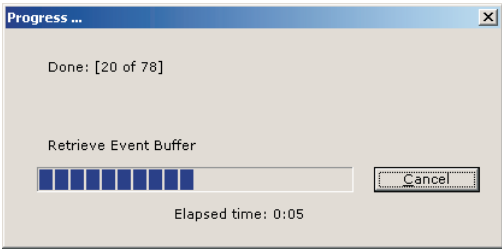
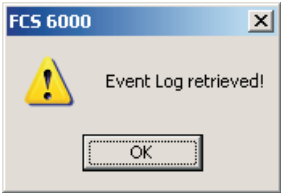

Figure 4-27. Receive Event Log Progression
Figure 4-28. Event Log Received Confirmation
6. Select **<OK>** to download the event log from that node. In response, the progression of the download (Figure 4-27) is displayed. When it is complete, the Event Log Retrieved Confirmation Screen displays (Figure 4-28).